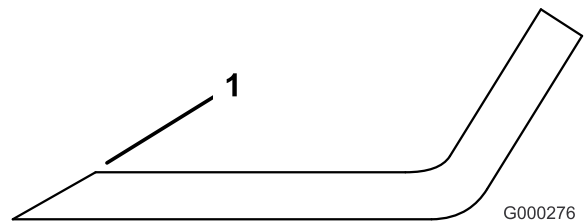

Figure 93
- Examine the cutting edges of all of the blades. Sharpen the cutting edges if they are dull or nicked. Sharpen only the top of the cutting edge and maintain the original cutting angle to make sure of sharpness (Figure 93). The blade will remain balanced if the same amount of metal is removed from both cutting edges.